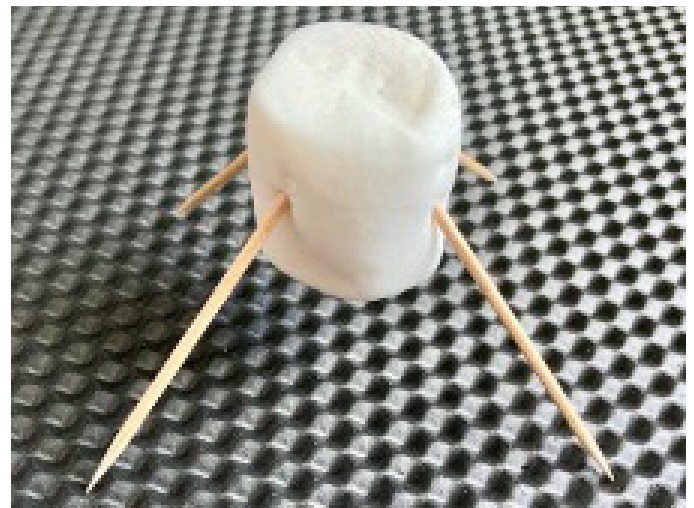

Figure 1. Insert the four toothpicks into the marshmallow to represent Ingenuity's legs.
2. Insert the four toothpicks into the marshmallow so they come out at angles as shown in Figure 1. The toothpicks represent the four hollow carbon-fiber legs on Ingenuity. Ingenuity's legs are designed to be lightweight while still supporting the helicopter when on the Martian surface. To take up less space, Ingenuity's legs were folded while it was being carried to Mars.